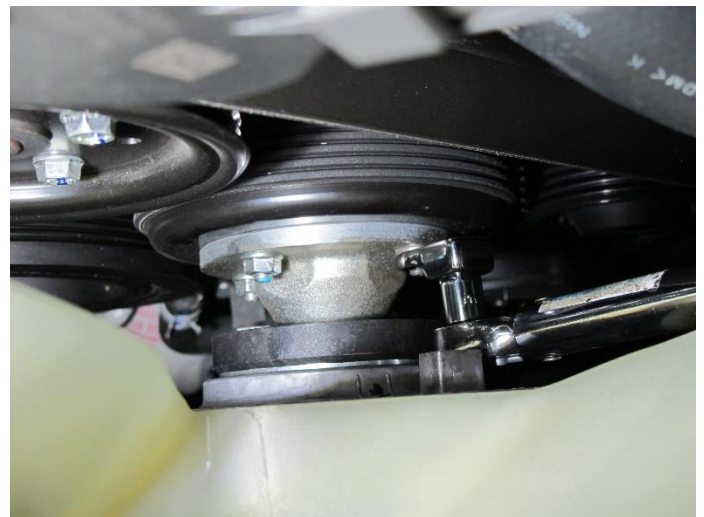

Figure 13
11. Using an inch lb torque wrench, torque the remaining fan coupling nut(s) and mark with the paint pen (Figure 13).